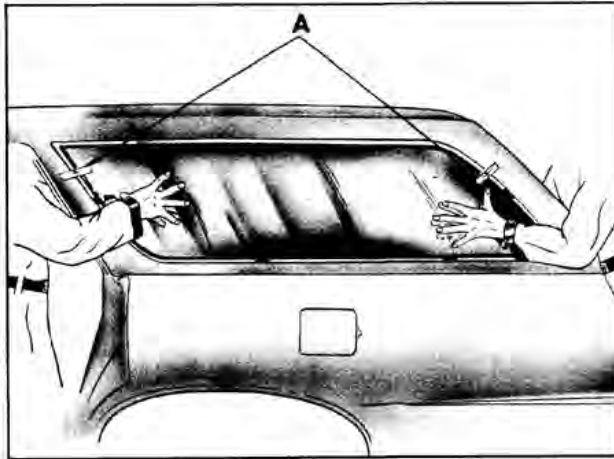

Fig. 16-376 Quarter Window Installation
4. With aid of a helper, carry glass to body as shown in Fig. 16-375. Then, with helper supporting glass with both hands, reach one hand around body pillar and support glass while helper also reaches around pillar to assume position shown in Fig. 16-376. Position glass in opening by making contact along upper edge first, then swing in lower edge.
7. After final adjustments have been made and glass is in proper position, apply a piece of masking tape horizontally over front and rear edges of glass and body pillars. ("A", Fig. 16-376) Slit tape vertically at glass edge so that tape on glass can be aligned with tape on body and act as guide when glass is installed.